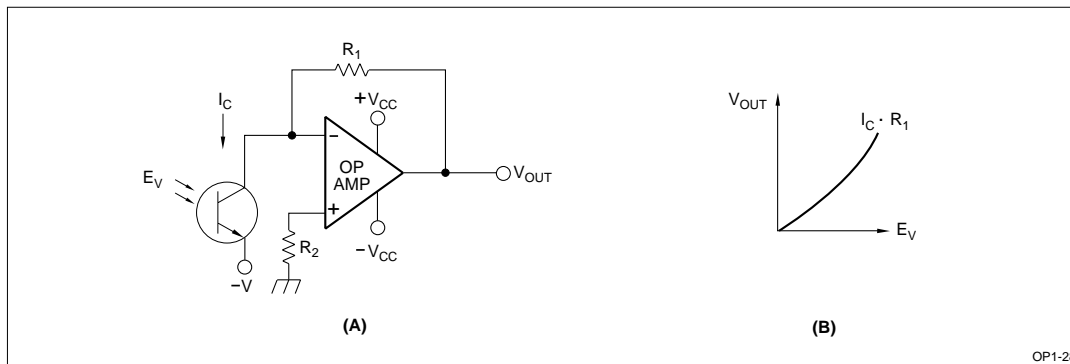

Figure 13. Amplifier Circuit using an Operational Amplifier
Figure 13 shows a current-voltage conversion circuit using an operational amplifier. Its output voltage (V_{OUT}) is expressed as $V_{OUT} = I_C \times R_1$.
The current-voltage conversion circuit for the phototransistor is basically identical to that of the photodiode, except that the phototransistor requires a bias. The circuit shown in Figure 13 (A) has a negative bias ($-V$) for the emitter against the virtually grounded collector potential. Figure 13 (B) shows the output voltage vs. irradiation intensity characteristics.